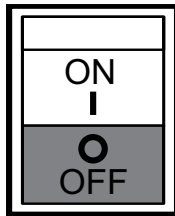

Figure 18. Idle Control Switch (OFF)
- Place idle control switch (Figure 18) in the **OFF** position. This will allow the engine speed to run at about 3600 RPM's.
Placing the idle control switch in the **OFF** position (Figure 18) allows the engine to operate at a maximum speed of about 3600 RPM's.